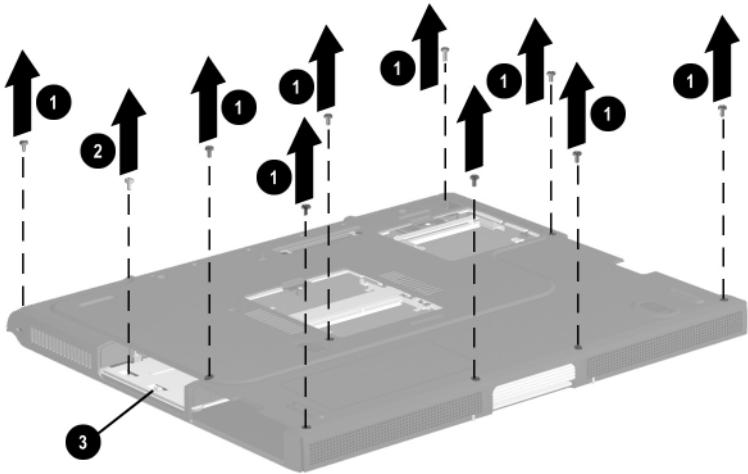

Figure 5-21. Removing the Top Cover Screws
3. Remove the nine PM2.0 \times 8.0 screws ❶ securing the top cover to the base enclosure (Figure 5-21).
4. Remove the PM2.0 \times 4.0 screw ❷ securing the top cover to the base enclosure in the hard drive bay.